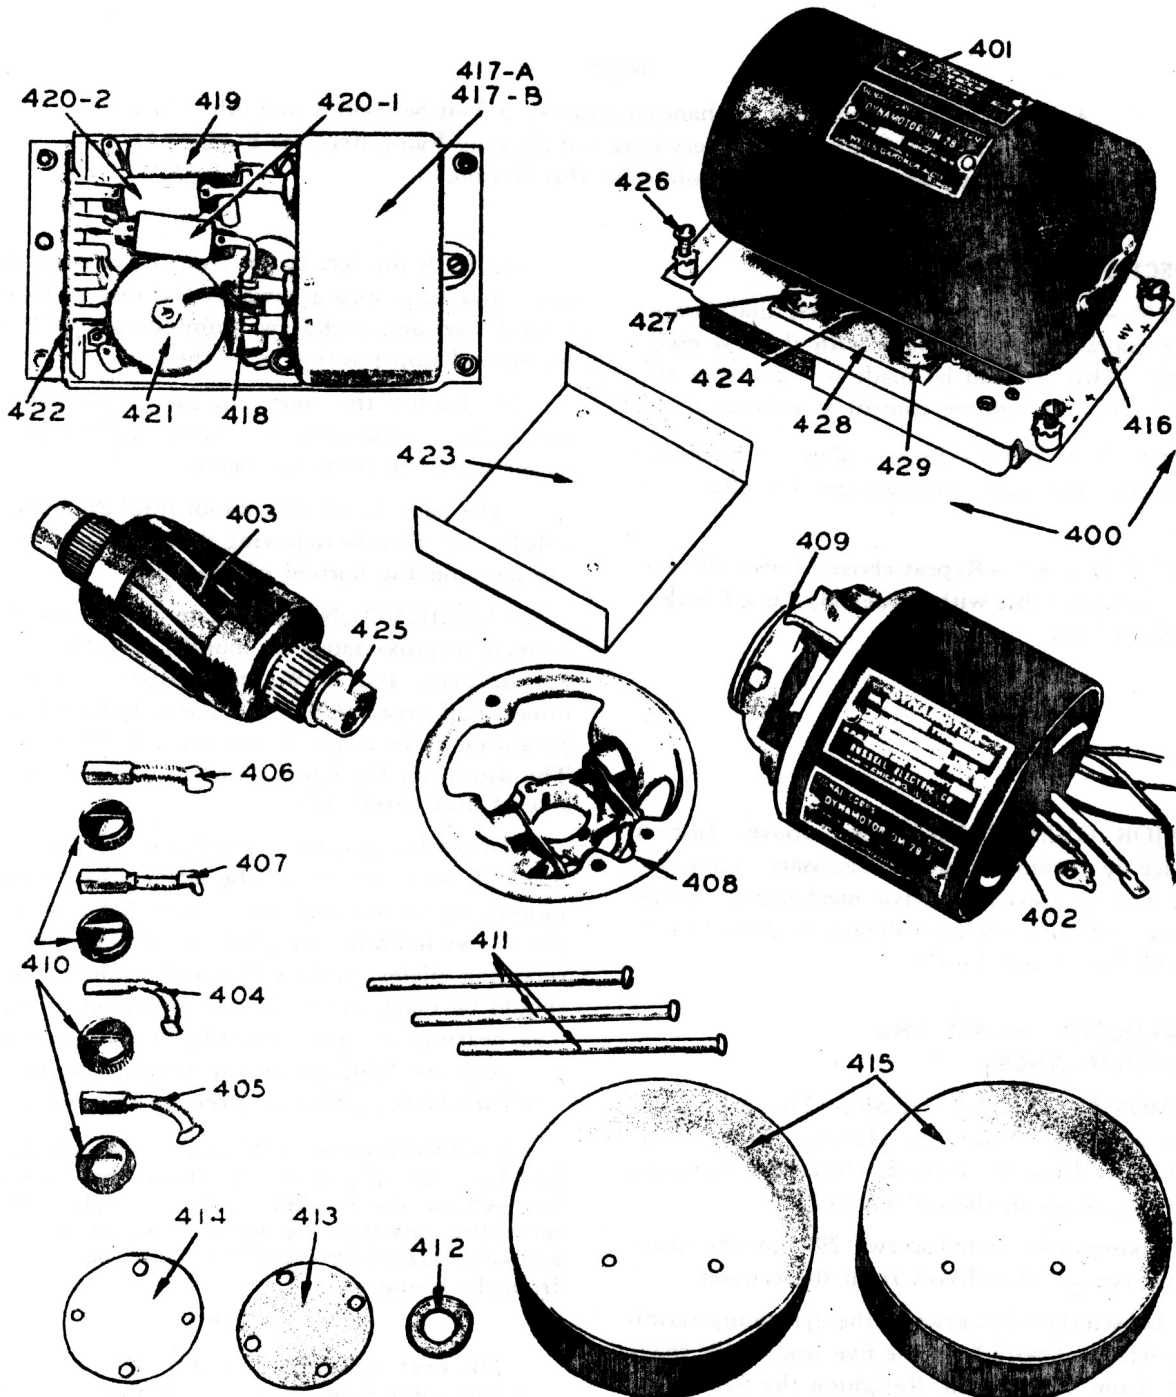

Figure 8 — Dynamotor DM-28-J and Filter
d. MAJOR OVERHAUL.—Repeat above. Inspect and replace dynamotor brushes if necessary. Lubricate dial and tuning capacitor drive mechanism. Check dynamotor and tube socket voltages as described in Paragraphs 34*e*(1) and 34*b*(1).
a. REMOVAL FROM CHASSIS.—The dynamotor and filter assembly (Figure 8, reference 400) may be removed easily from the receiver chassis by repeating the following steps in the order given:
(1) Loosen two thumbscrews 299 on the front panel, and remove the chassis from the cabinet.
(2) Loosen the five screws on the dynamotor terminal strip 422, and withdraw the five leads with spade terminals from under them. Retighten the five screws partially in order that they will clear the chassis when the dynamotor is removed.
(3) Push the left (from front of chassis) thumb-screw rod stop spring towards the end plate with a screwdriver, and withdraw thumbscrew rod 299 until the second stop position is reached.
(4) Loosen the four captive screws 426 which fasten the dynamotor to the chassis, and lift the dynamotor vertically from the receiver.